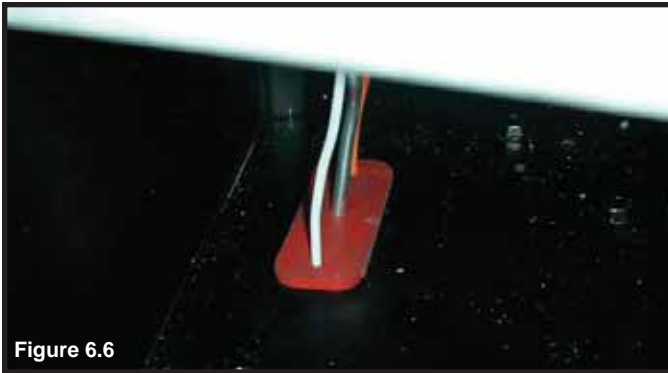

Figure 6.6
21. Place one piece grommet over pilot wires and supply tube. Slide and snap into mating rectangular slot. Make sure it fits securely. See Figure 6.6.